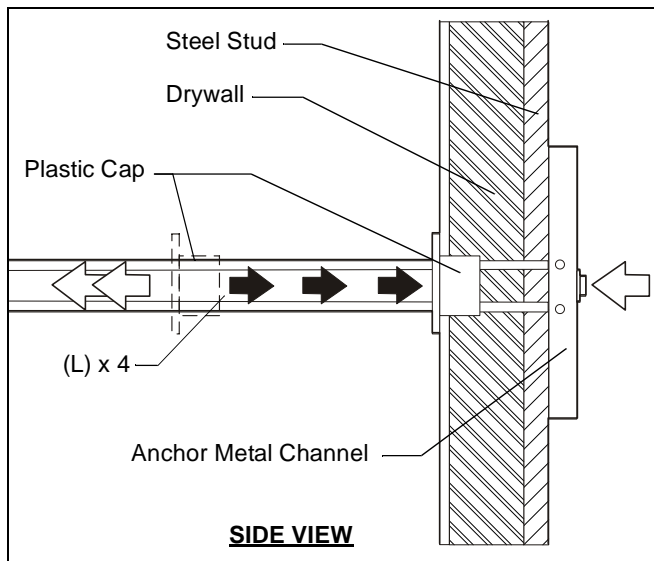

Figure 5
7. Holding plastic straps on anchor (L), pull anchor away from wall until channel rests flush behind wall making sure anchor channel is positioned vertically on stud as shown following figures. (See Figure 5)
8. Slide plastic cap on anchor (L) towards wall until cap flange is flush with wall. (See Figure 5)